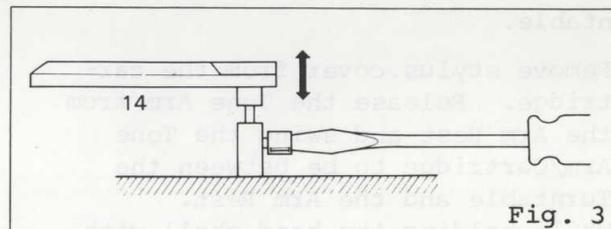

Fig. 3
2. Loosen arm lifter screws (19) and adjust the stylus tip height to the same height as that of the platter surface. (Figure 3)